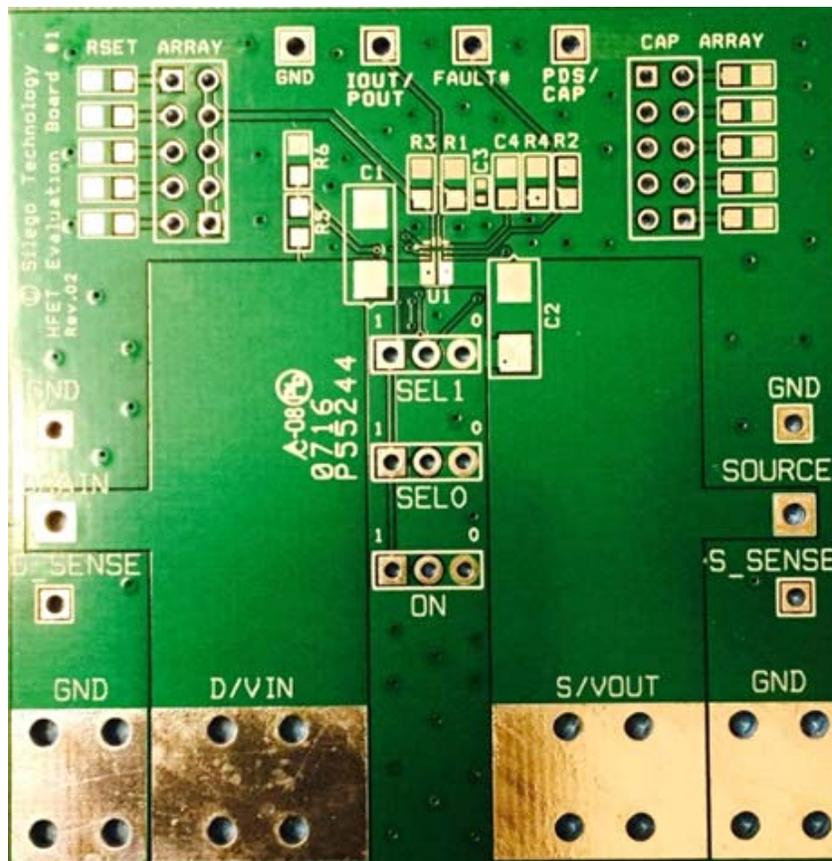

Figure 19. SLG59H1127V Evaluation Board
1. Since the V_{IN} and V_{OUT} pins dissipate most of the heat generated during high-load current operation, it is highly recommended to make power traces as short, direct, and wide as possible. A good practice is to make power traces with absolute minimum widths of 15 mils (0.381 mm) per Ampere. A representative layout, shown in Figure 19, illustrates proper techniques for heat to transfer as efficiently as possible out of the device;
A HFET1 Evaluation Board for SLG59H1127V is designed according to the statements above and is illustrated on Figure 19. Please note that evaluation board has D_Sense and S_Sense pads. They cannot carry high currents and dedicated only for $R_{DS(ON)}$ evaluation.